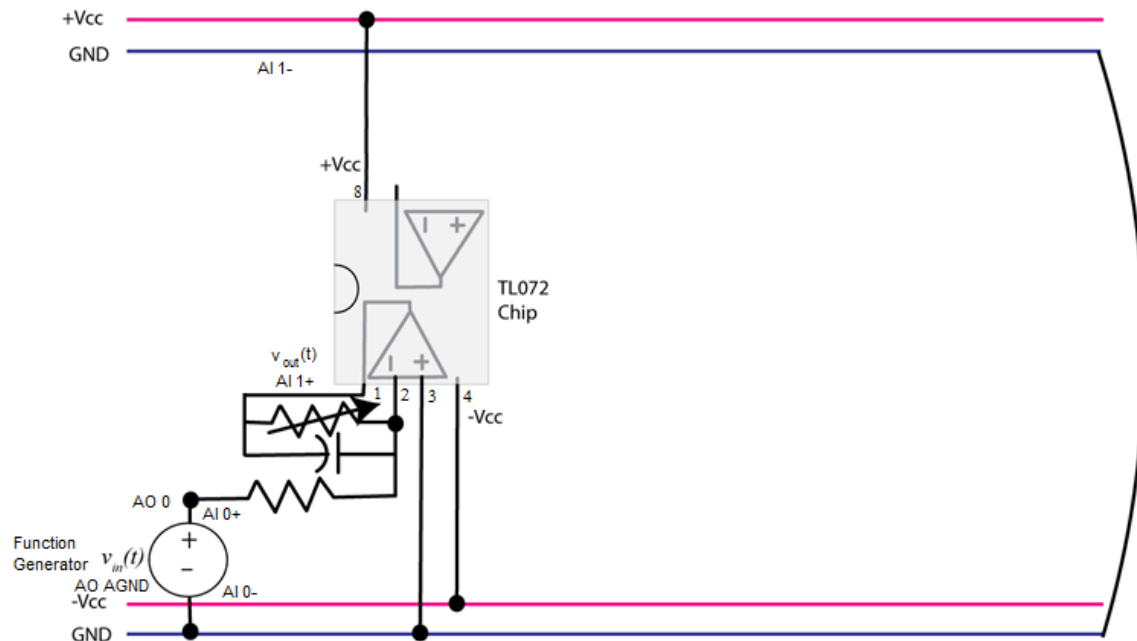

Figure 5: Active lowpass filter schematic
- Build the lowpass filter in Figure 5 on the first TL072 chip. All of the resistors in this lab are 1 kΩ and all of the capacitors are 1 μF.